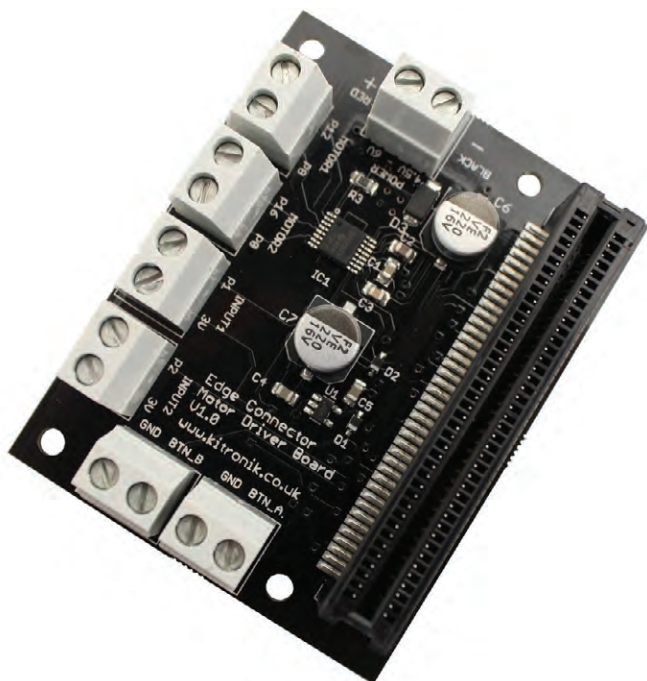

FIGURE 1.7: The Edge Connector Motor Driver Board
- The Edge Connector Motor Driver Board (Figure 1.7)—If you want to use your micro:bit to do anything really cool, like, say, drive a robot in response to signals from your cell phone, you're going to want this board. Again, you slide the micro:bit into the slot, and all the pins you need to connect to external motors and power sources are instantly made available to you. It's very handy and will save you a lot of time when it comes to building.